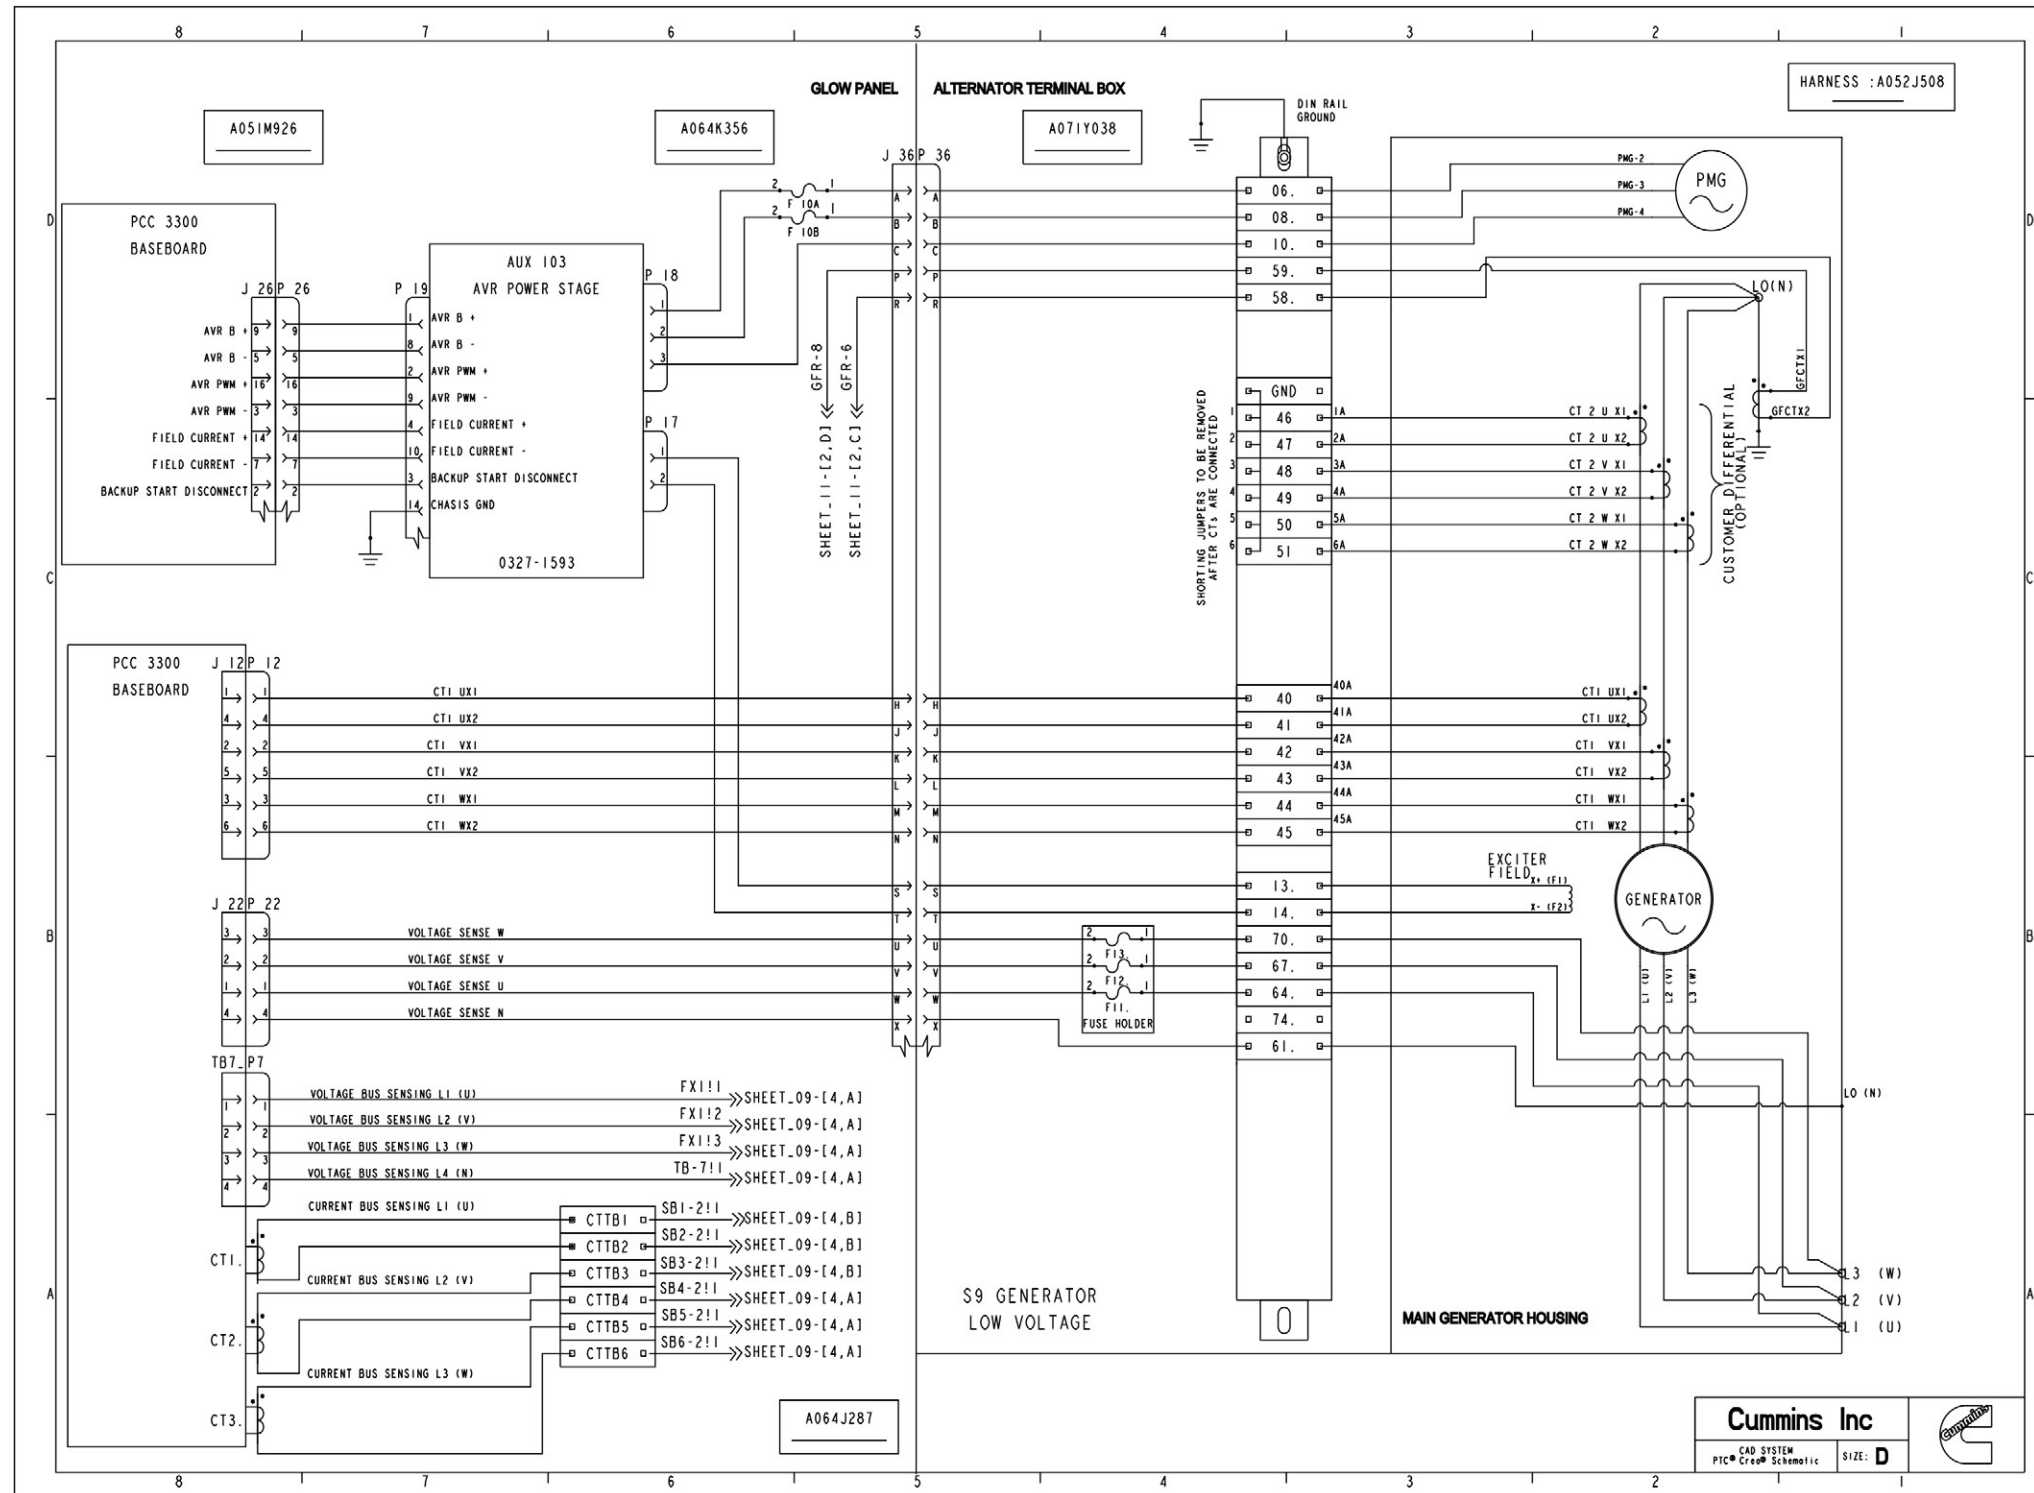

FIGURE 62. WIRING SCHEMATIC (SHEET 7)
- Figure 62. Wiring Schematic (Sheet 7) 117